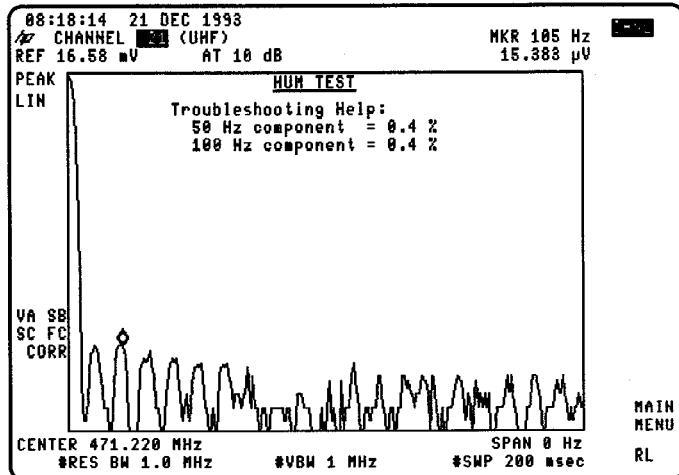

Figure 2-29. HUM (MORE INFO)
2. Pressing **MORE INFO** results in the analyzer performing a single sweep of 200 ms and performs a Fast Fourier Transform (FFT) on it to separate the 50 Hz and 100 Hz components. The results are displayed as shown in Figure 2-29.